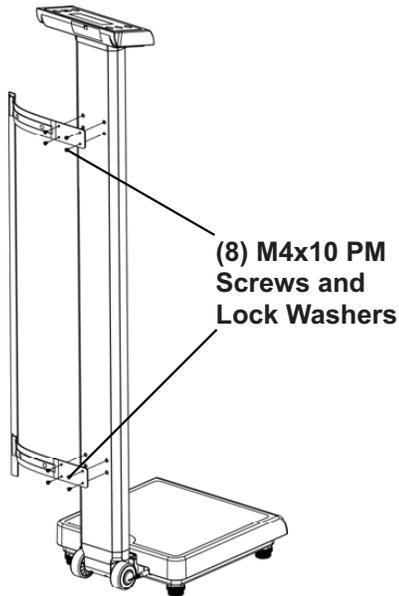

Figure No. 18
- Align the upper mounting bracket with the holes near the display in the back of the column and install two (2) M4x10 PM screws to secure the bracket to the column.
- Align the holes in the lower bracket with the lower holes in the column and install two (2) M4x10 PM screws with lock washers to secure it to the column. See Figure No. 18.